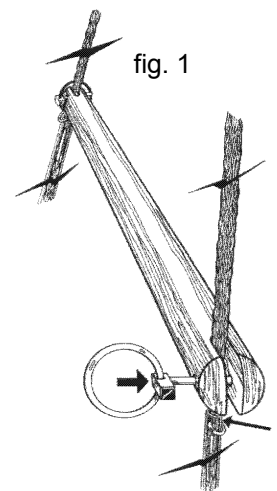
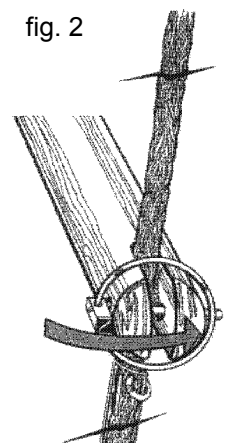

fig. 1
fig. 2
- To remove the wood spreader bars, swing the rings on the lynch pins open as shown in figure 1. Pull the pins out of the bar and remove the bar from the ropes..
- To put the bars back on the swing, insert one end of one of the spreader bar onto one of the ropes *just above the vinyl tube*. Open the ring on a lynch pin clip and put the pin through the 1/4" hole near the end of the bar making sure that the rope is retained by the pin. (See fig. 1). Swing the ring around the end of the bar and it will snap closed trapping the rope in the slot. (See fig. 2). Repeat this procedure with the other end of the bar to the opposite rope on the same side of the swing. Attach the other bar to the other two ropes the same way.